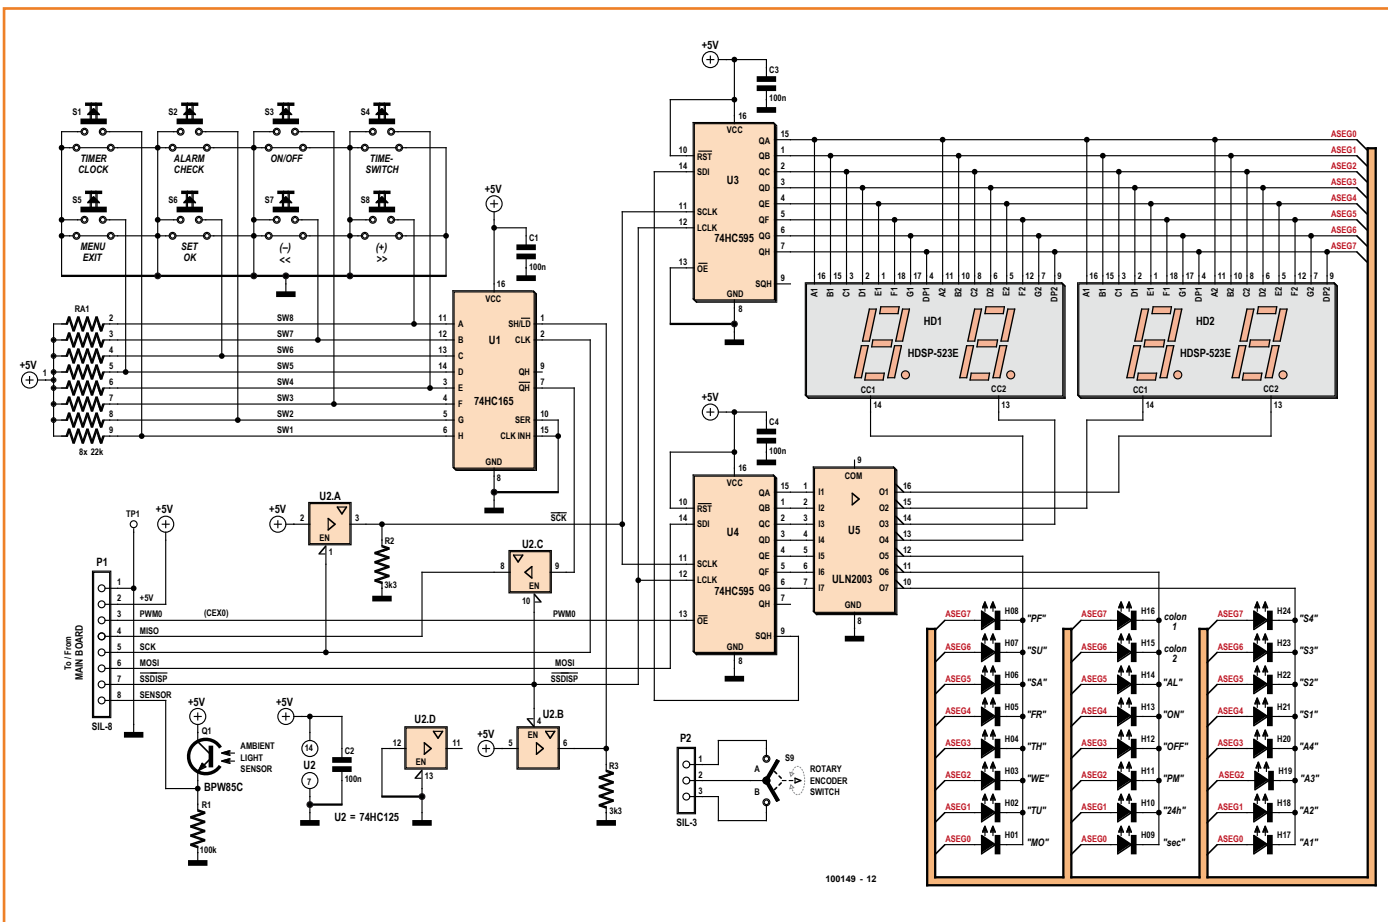

Figure 4. Circuit diagram of the display board.
**Figure 4** shows that the 4-digit numeric display is realized using two 2-digit devices (Avago HDSP-523X), available in three colors: red, green or yellow. Pin-compatible parts are made by other optoelectronics manufacturers. Backlit enunciators are realized by 24 discrete LEDs, 5 mm round diffuse lens, of various colors.